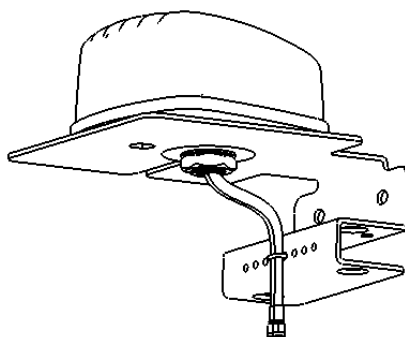

Figure 1.
1. As shown in Figures 1 and 2, pre-assemble antenna to bracket.